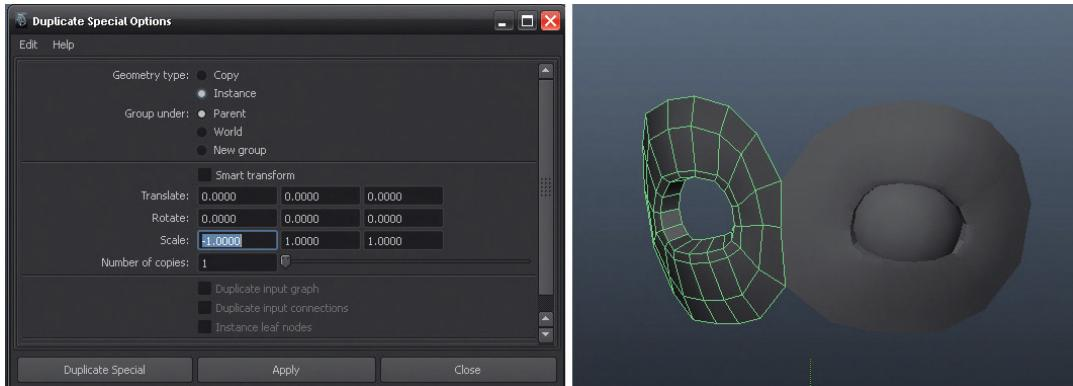

FIG 4.20 Creating a mirrored copy using Duplicate Special.
Step 35: Duplicate an instance. Choose Edit > Duplicate Special (Options). In Geometry Type, click Instance. Under Scale, change the values to -1, 1, 1 (Fig. 4.20). Hit Duplicate Special.